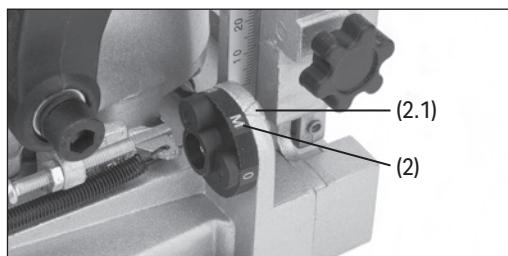

Fig.2
6.2 Blade Depth Selection (Fig.2)